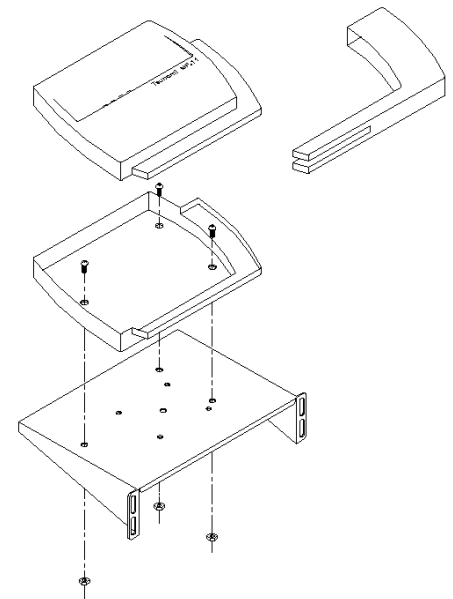

Figure 2 - Mounting radio bridge to rack.
Step 4 – Mount the radio bridge to the second rack. First, the radio bridge housing must be disassembled (reference radio bridge owners manual if unsure how to perform this operation). Use three (3) #6-32 X ½" screws and three (3) #6-32 nuts to attach the housing to the rack as shown in *Figure 2*.